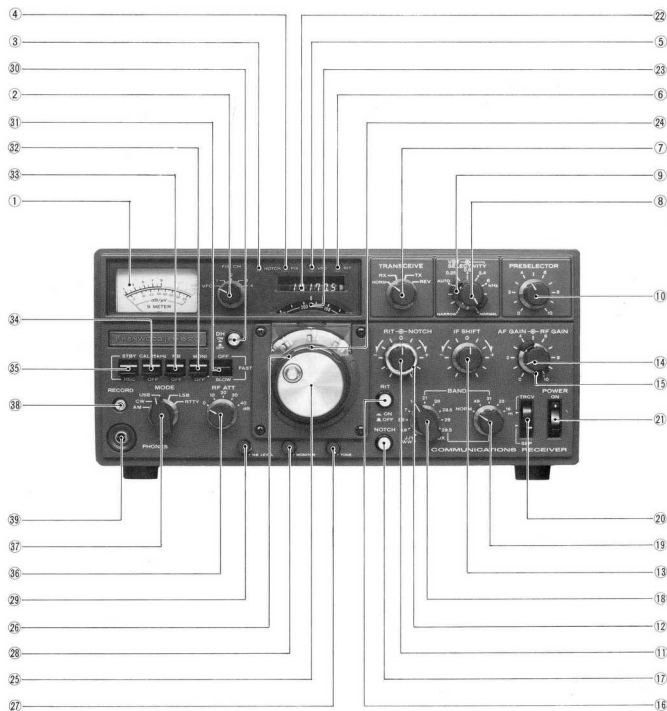

Fig. 3.1 Front Panel
3.1 FRONT PANEL (FIG. 3-1)
① S Meter